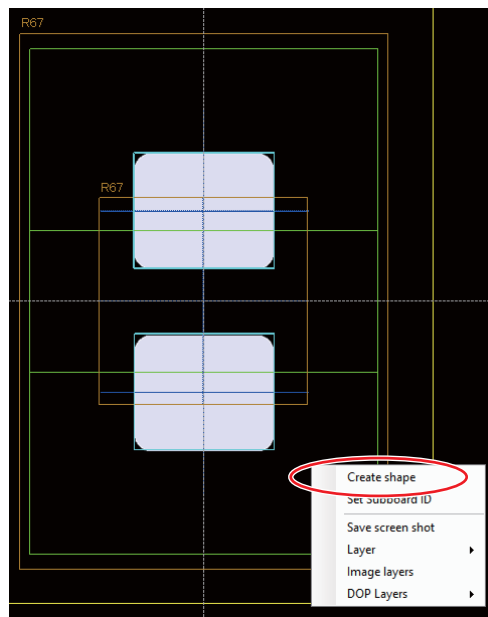

Figure 1-84 Create Manually 2
Step2: On **Board Viewer**, select the Mount data and Gerber data to create pad data by mouse dragging. Right click and select **Create Shape** shown in Figure1-84. Create the pad data (Shape and Recipe) in Link ID that has mount data.